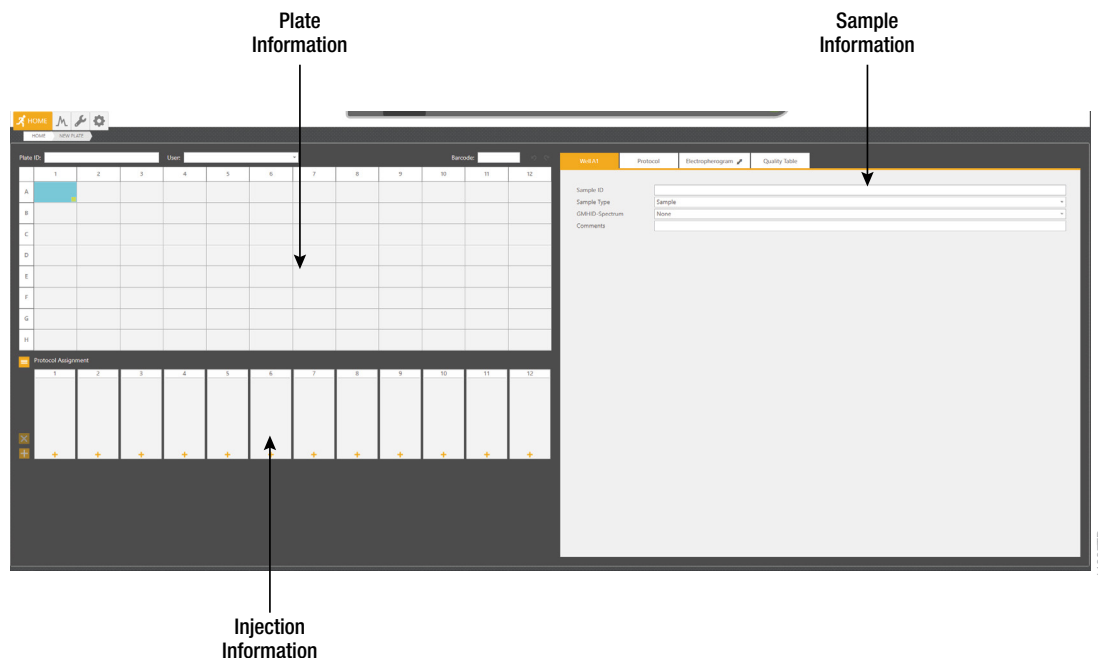

Figure 12. 'Plate' screen.
1. Select **New Plate** from the 'Home' screen. This will open a blank 'Plate' screen that is divided into three sections: Plate Information, Sample Information and Injection Information (Figure 12).
Alternatively, enter Sample IDs in the 'Sample ID' field of the Sample Information section (Figure 12).